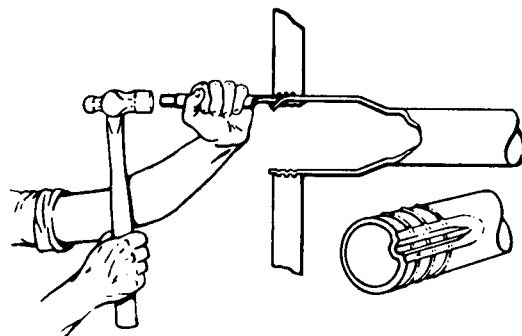

FIG. 14 – STEP (3) IN TUBE REMOVAL – END VIEW OF TUBE SHOWS EFFECT ON TUBE
3. This is followed by tapping and Airetool Tube Collapser with a hammer. See Figure 14. Enter the point of this tool into the "start" provided in Step (2). Do not omit Step (2) as the tube sheet hole may be scratched or gouged making it difficult or impossible to tightly expand the new tube. Tap the tube collapser far enough to loosen the tube from the tube sheet.